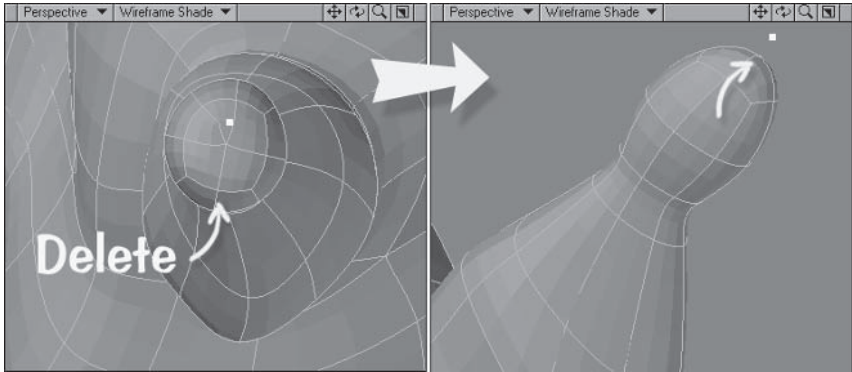

Figure 5.3-49. Cleaning up the tip of the ear.
15. Select the point in between the polygons shown in Figure 5.3-49 and **Delete**. Select the two triangles and **Merge Polygons**. Finally, move the middle point up to round off the top of the bulb.